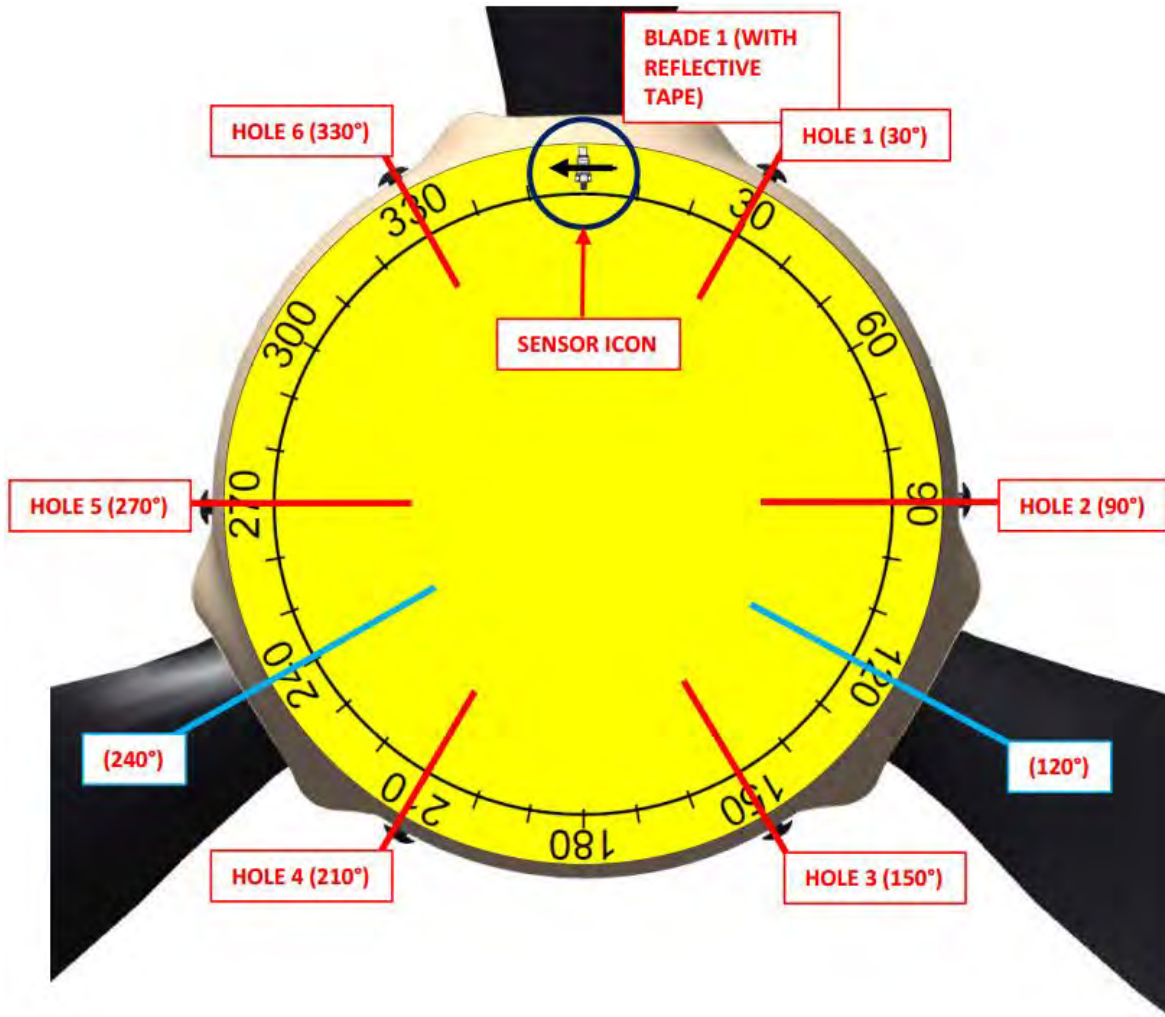

FIGURE 16-69
12. Use the protractor and Figure 16-69 to select one of the six holes that best matches the suggested location for installing washers.